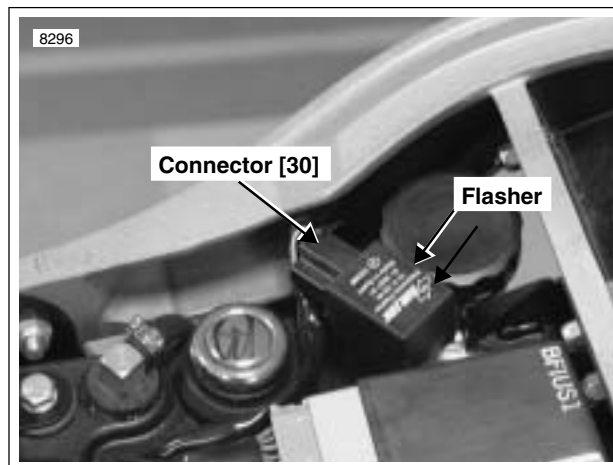

Figure 7-46. Turn Signal Flasher
1. See Figure 7-46. Remove nut, ECM mounting bolt and flasher from under seat.
1. See Figure 7-46. Attach 3-place connector [30] to flasher.